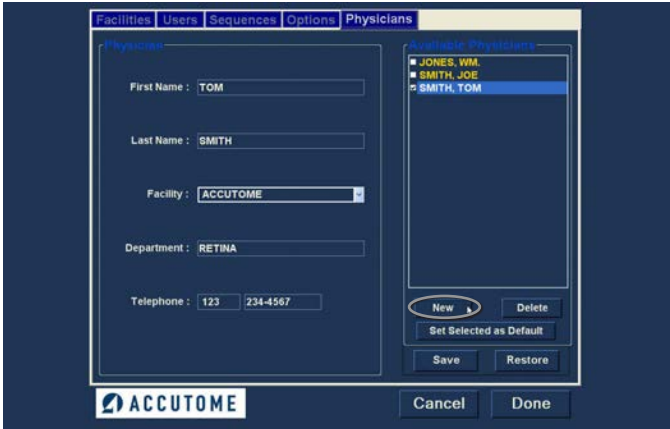

Figure 4.48 - Physicians Screen
1. In the Physicians screen select "New" as shown in Figure 4.48.